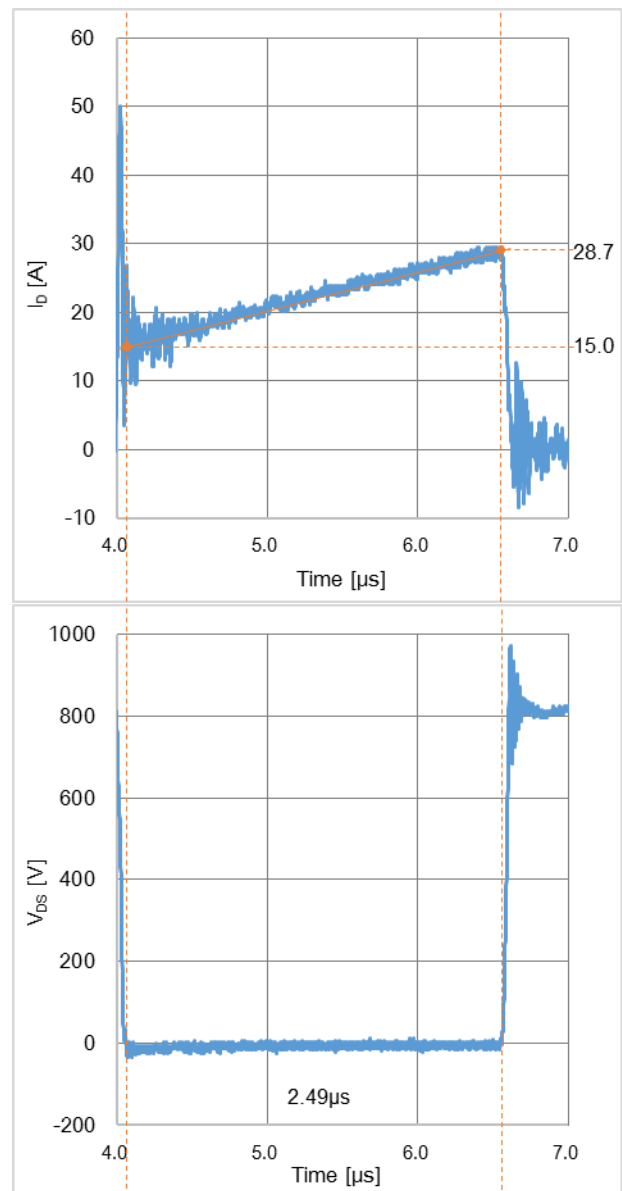

Figure 7. Enlarged waveforms and measured values during conduction
Figure 7 shows the enlarged waveforms during conduction. Here, substitute the values into Equation (E) in Table 1 to calculate the power loss. For the on-resistance of the MOSFET, use the maximum value from the data sheet.